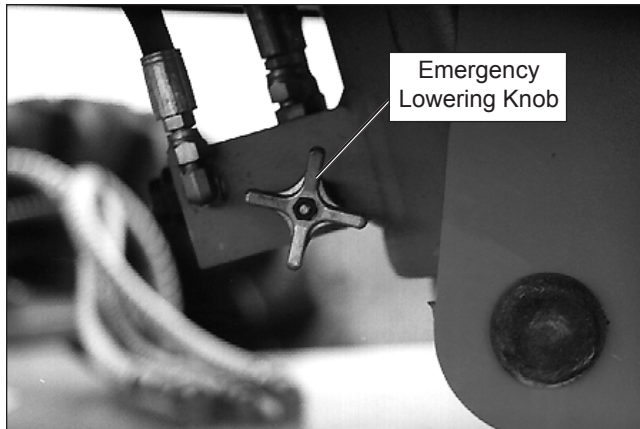

Figure 7.12 – Emergency Lowering Knob
The main boom can be lowered in an emergency using the emergency lowering knob. The emergency lowering knob is at the base of the main boom lift cylinder (refer to Figure 7.12).
4. Slowly turn the emergency lowering knob to open the bleed down valve (refer to Figure 7.12). The boom should slowly lower.